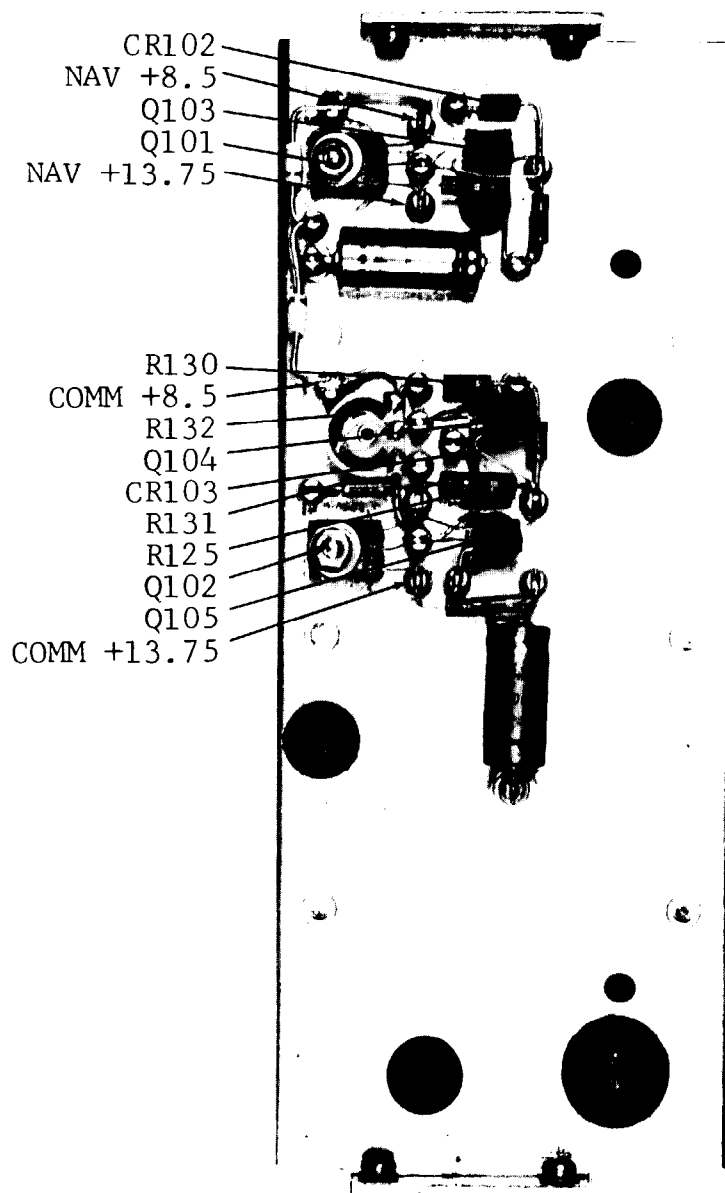

FIGURE 5-47 REGULATORS
5.11.1 COMM 8.5 VOLT REGULATOR (Figures 5-47 and 5-54)
5.11.2 8.5V NAV REGULATOR (Figure 5-47 and 5-54)